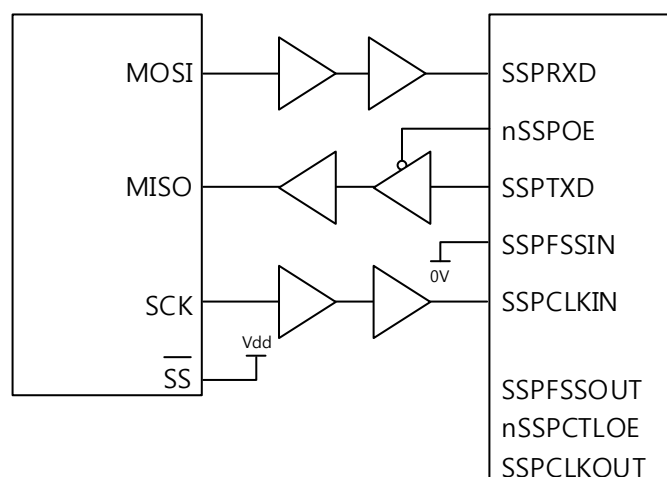

Figure 68. SPI master coupled to a PrimeCell SSP slave
Figure 68 shows a Motorola SPI configured as a master and interfaced to an instance of a PrimeCell SSP (PL022) configured as a slave. In this case, the slave Select Signal (SS) is permanently tied HIGH to configure it as a master. The master can broadcast to the slave through the master SPI MOSI line. In response, the slave drives its nSSPOE signal LOW. This enables its SSPTXD data onto the MISO line of the master.